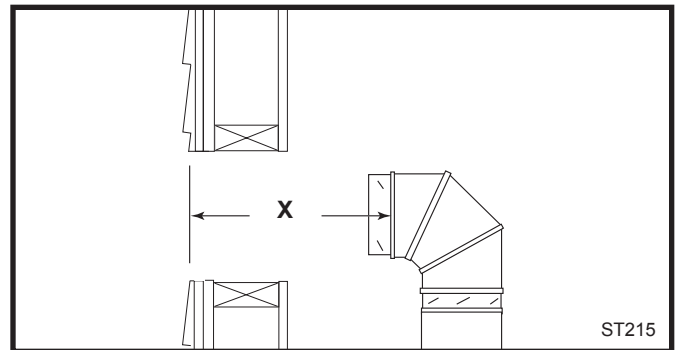

Fig. 25 Measure the horizontal length.
7. Measure, and cut if needed, the appropriate length of pipe section needed to make the connection through the wall. Include a 2" overlap; i.e. from the elbow to the outside wall face, about 2" or the distance required if installing a second 90° elbow. (Fig. 25)